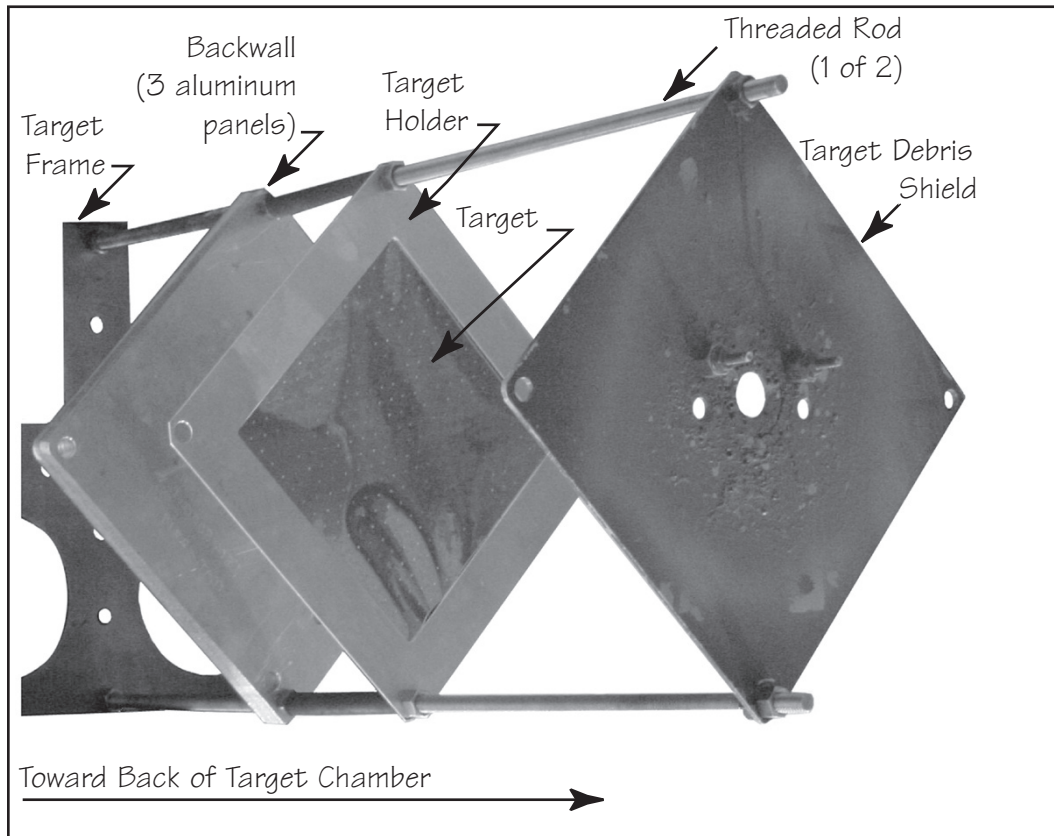

Figure 4.1-2.
4.1.2.1. **Prepare** the target assembly (Figure 4.1-2).